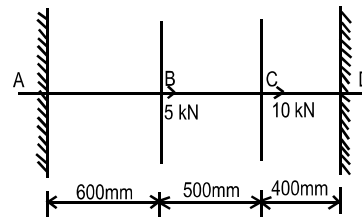

Fig. 3
3. (a) A straight uniform bar AD is clamped at both ends and loaded as shown in Fig. 3. Initially the Bar is stress free. Determine the stresses in all the three parts (AB, BC, CD) of the bar if the cross-sectional area of the bar is 1000mm^2 .